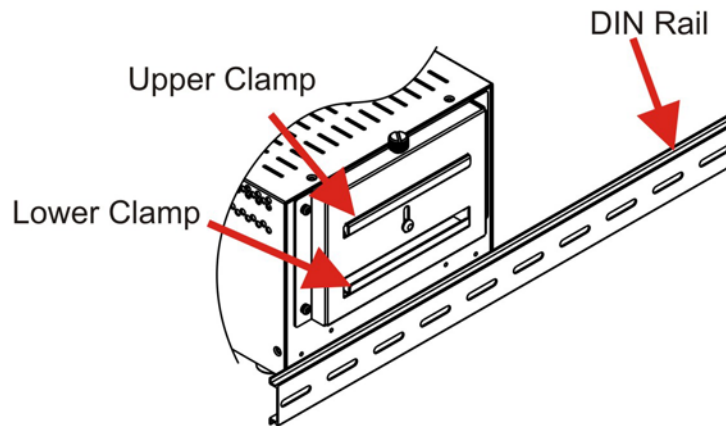

Figure 3-21: Mounting the DIN Rail
Step 3: Place the DIN rail flush against the back of the mounting bracket making sure the edges of the rail are between the upper and lower clamps (**Figure 3-21**).